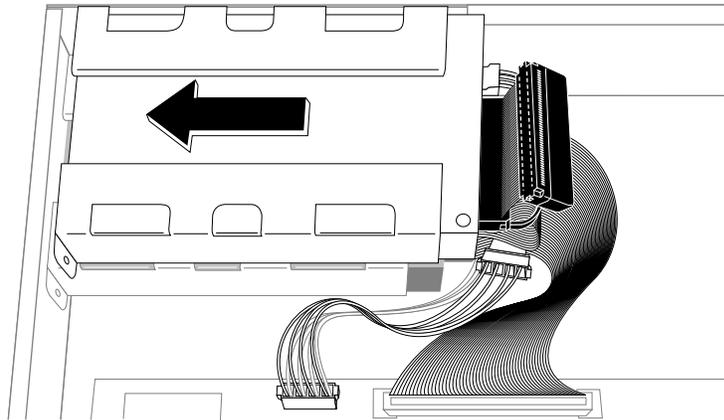

Figure 9-27 Re-installing the Floptical Drive
13. Reinstall the floptical drive in the upper drive slot, as shown in Figure 9-27.